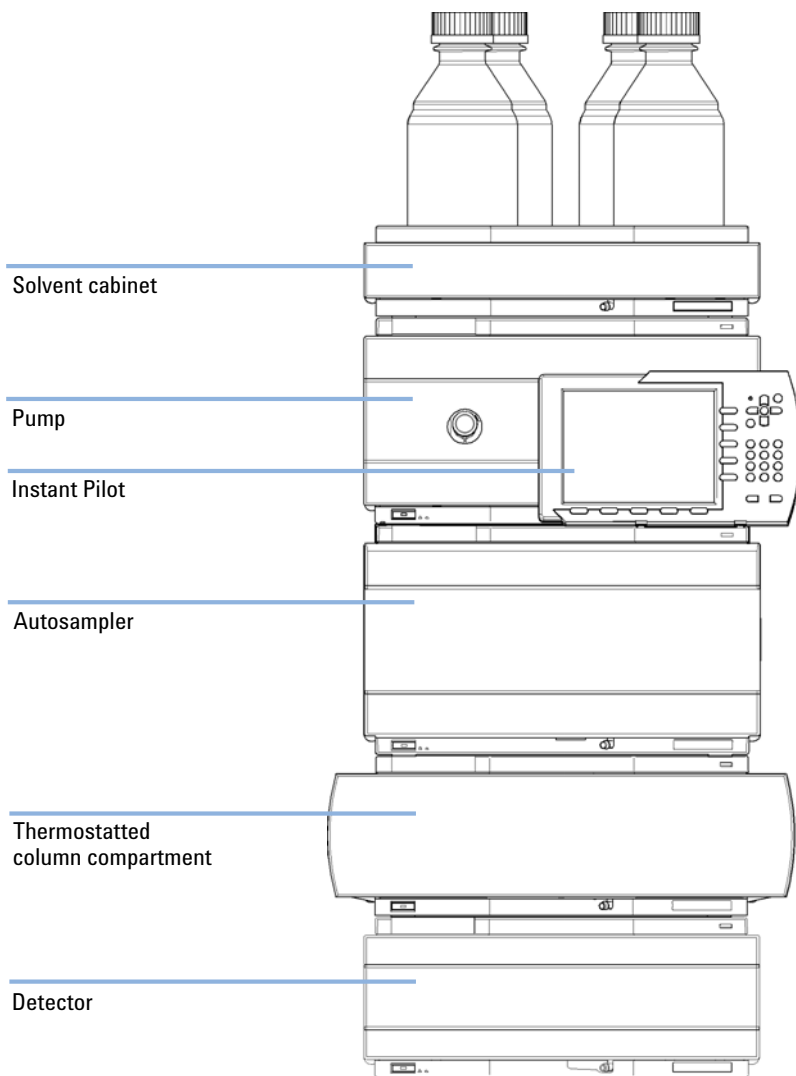
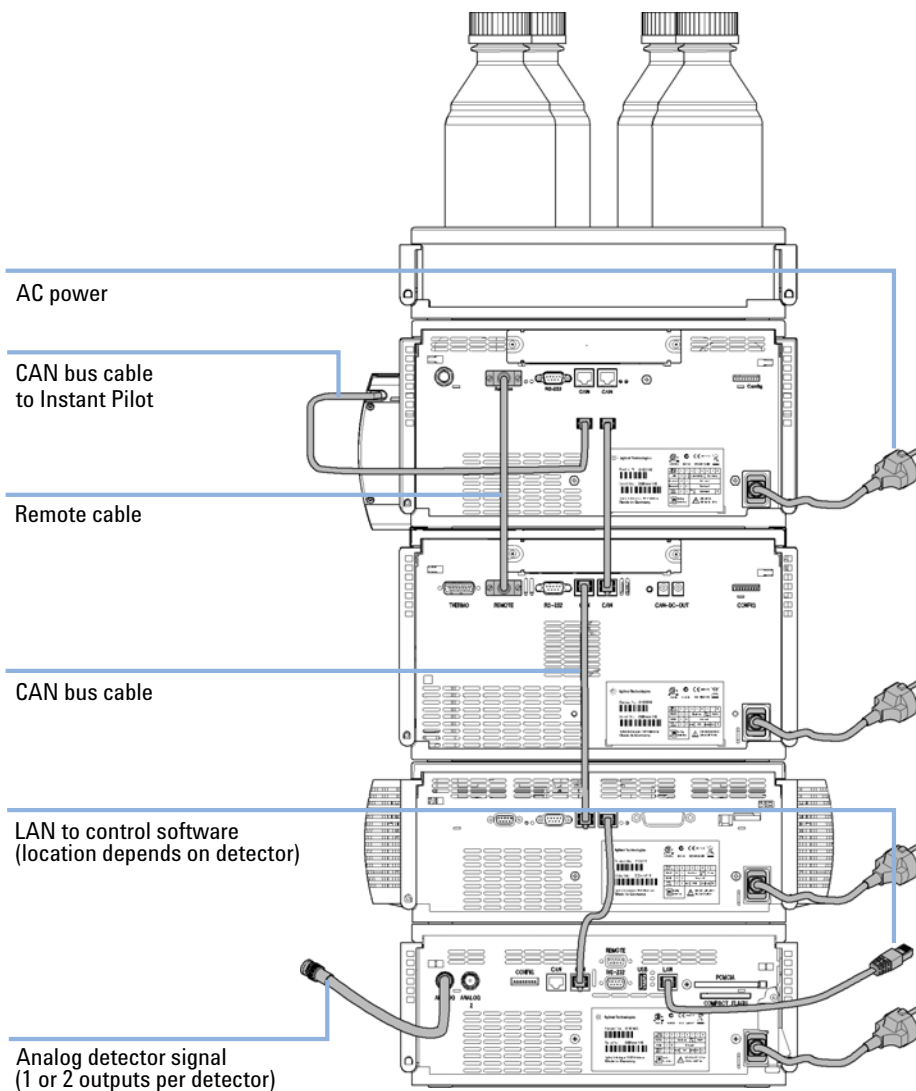

Figure 5 Recommended Stack Configuration for 1260 Infinity (Front View)
Figure 6 Recommended Stack Configuration for 1260 Infinity (Rear View)
Ensure optimum performance by installing the modules of the Agilent 1260 Infinity LC System in the following configuration (see Figure 5 on page 33 and Figure 6 on page 34). This configuration optimizes the flow path for minimum delay volume and minimizes the bench space required.
- 1 Place the individual modules in a stack configuration as shown in Figure 5 on page 33.
- 4 Connect the CAN cable to the CAN connector of the next module, see Figure 6 on page 34.